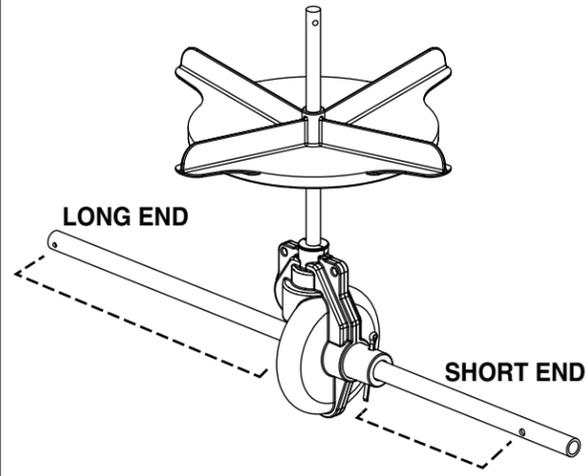

Figure 3A
STEP 3A (SEE FIGURE 3A): Identify long and short ends of the axle using the drawing below.